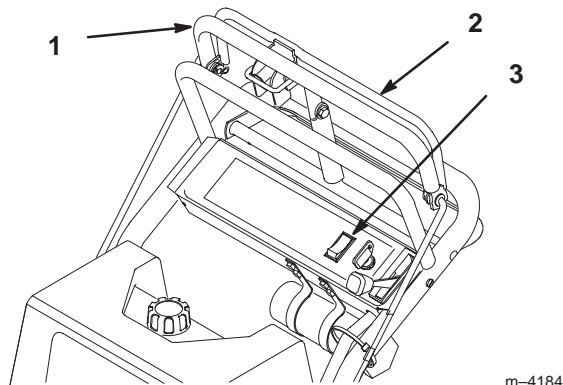

Figure 17
1. Pull on the upper control bar to stop the machine (Fig. 17).
1. Releasing blade control bail to disengage blades (PTO) (Fig. 17).